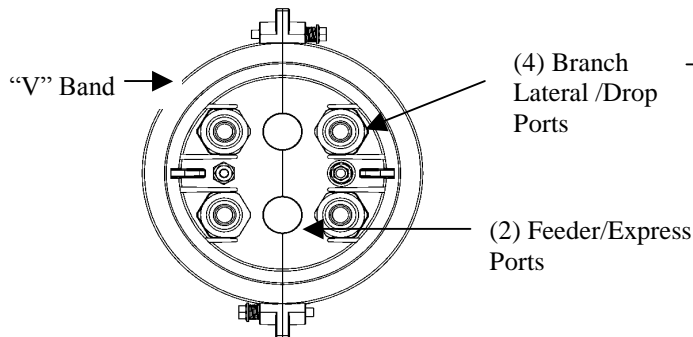

Figure 3
3.1 Cable Entry & Ordering Information Refer to Figure 3 & Table 1